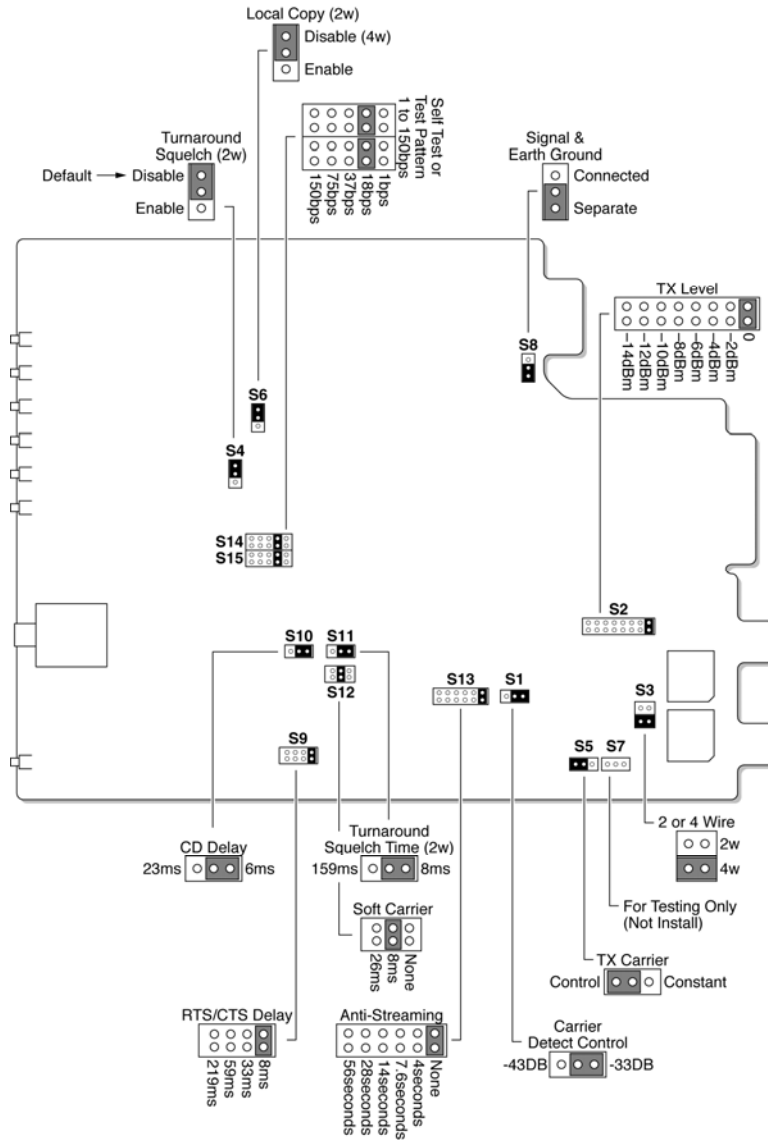

Figure 2-4. Modem Jumper Locations
Figure 2-4 on the next page shows the location of the modem jumpers. Table 2-1 on page 13 summarizes the jumper settings (default settings are **bold**).
**Note:** The jumper positions in the following sections reflect the position of the jumpers on the modem board when you face the board as indicated in Figure 2-4 on page 12.